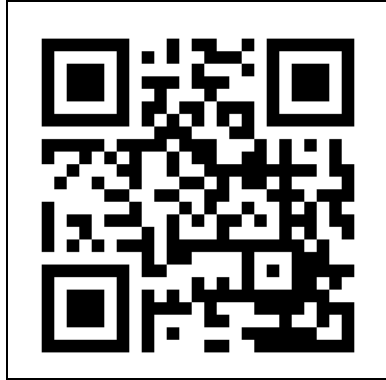

Figure 16
1. Open the Eurom Smart App manual with the QR code (Figure 16) or go to www.eurom.nl/nl/manuals.